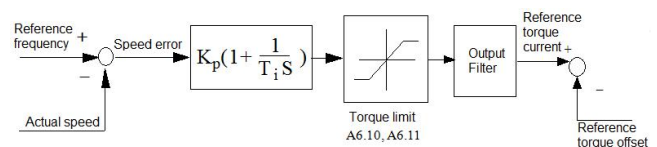

Fig.6-13 Speed regulator
1. The structure of speed regulator (ASR) is shown in Fig.6-13. In the figure, K_P is proportional gain P. T_i is integral time I.